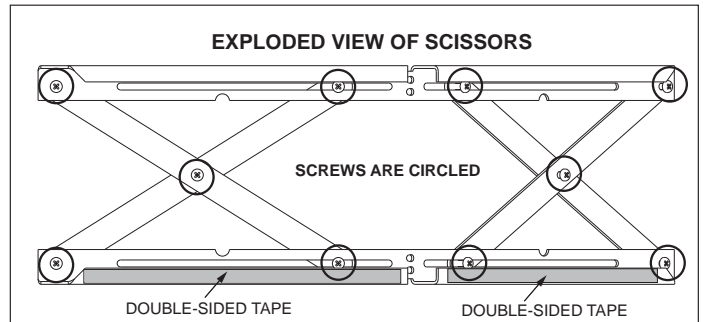

Figure 19.1
**Included in Kit:** (1) trim top, (1) trim front, (2) trim sides, double-sided tape (already installed)
1. The 10 screws on each set of scissors will already be loose when shipped. **Figure 19.1.**